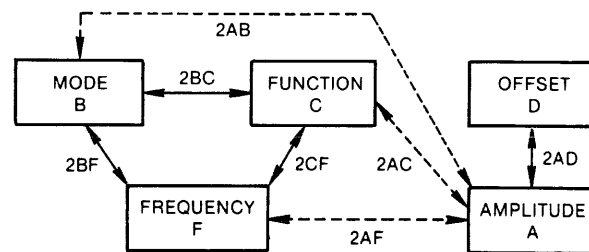

Figure 3-9. Class 2 Errors
Class 2 errors are interparameter inconsistencies such as $2 \times \text{ABS}(\text{OFST}) + \text{peak to peak amplitude}$ greater than 10.4V. Figure 3-9 shows the possible types of class 2 errors. Tests are made every time an execute (I) or GET is given. If no class 2 error is detected, all scratchpad values are transferred to the waveform memory (see table 3-1).